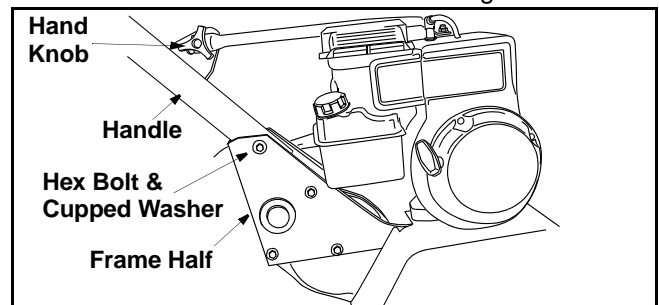

Figure 2
- Remove the hex bolt and cupped washer from the top right side of the frame halves. Hold the cable guide bracket on the left side of the frame as it will fall when the bolt is removed. See Figure 2.